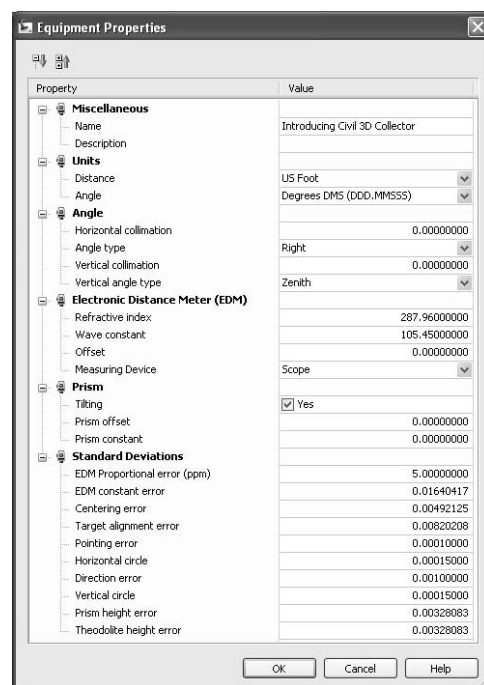

Figure 4.4
7. Use the pull-down button in the Value column next to Distance to change the distance units from meters to feet. Your dialog should now look like Figure 4.4.